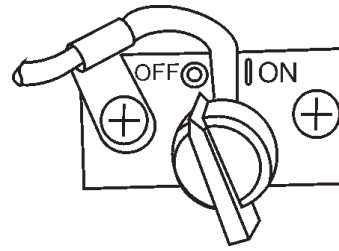

Figure 14. ON/OFF Switch (Off Position)
2. After the engine **cools**, turn the engine start/stop switch to the **"OFF"** position (Figure 14).